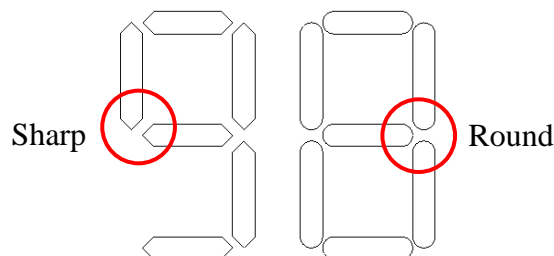

Fig. 3 Sharp ends and round ends.
- Make the ends of each segment sharp if it is an odd number. If the digit is “0” or it is an even number, make the ends round (Fig. 3).